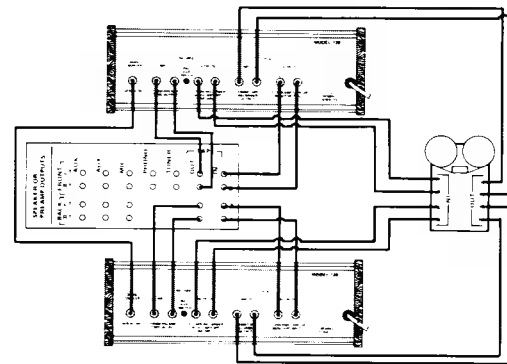

Fig. 13 — 4 Channel Operation with Two dbx 128's
2. Connect the QUAD CONNECTORS of the two units together with a spare patch cable, as per in Figure 13.